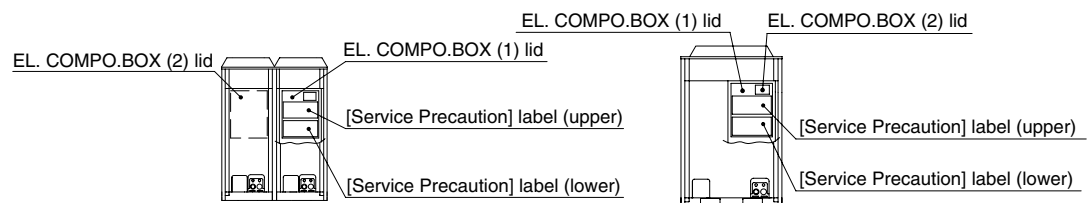

figure 32
- (1) Close the Electrical Components Box lid and all front panels except the side, and turn on the power to the outside unit and all connected BS, indoor units. Be sure to turn the power on at least 6 hours before operation in order to have power running to the crank case heater.
- (2) Make the onsite settings as needed using the push button (BS1-BS5) on the outside unit PC-board (A1P) with the power on. (See **10.2.7 Onsite Settings**)
- (3) Perform the check operation following the Check Operation Method of the [Service Precautions] label (lower) on the Electrical Components Box lid. (See figure 32) The system operates for about 40~60 minutes and then automatically stops the check operation. If the malfunction code is not displayed in the remote controller after the system stops, check operation is completed. Normal operation will be possible after 5 minutes. If the malfunction code is displayed in the remote controller, correct the malfunction following [Remote controller displays malfunction code] and perform the check operation again.